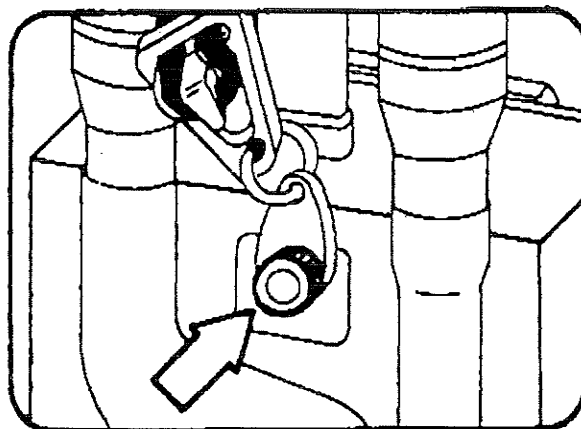

Fig. 2.3
2.3. Install the handle by first removing the screw from the base of the handle. Slide the handle into the opening in the top of the vac housing until it bottoms out. Install the secondary cord strain relief on the shoulder and install and tighten the screw. See Fig. 2.3